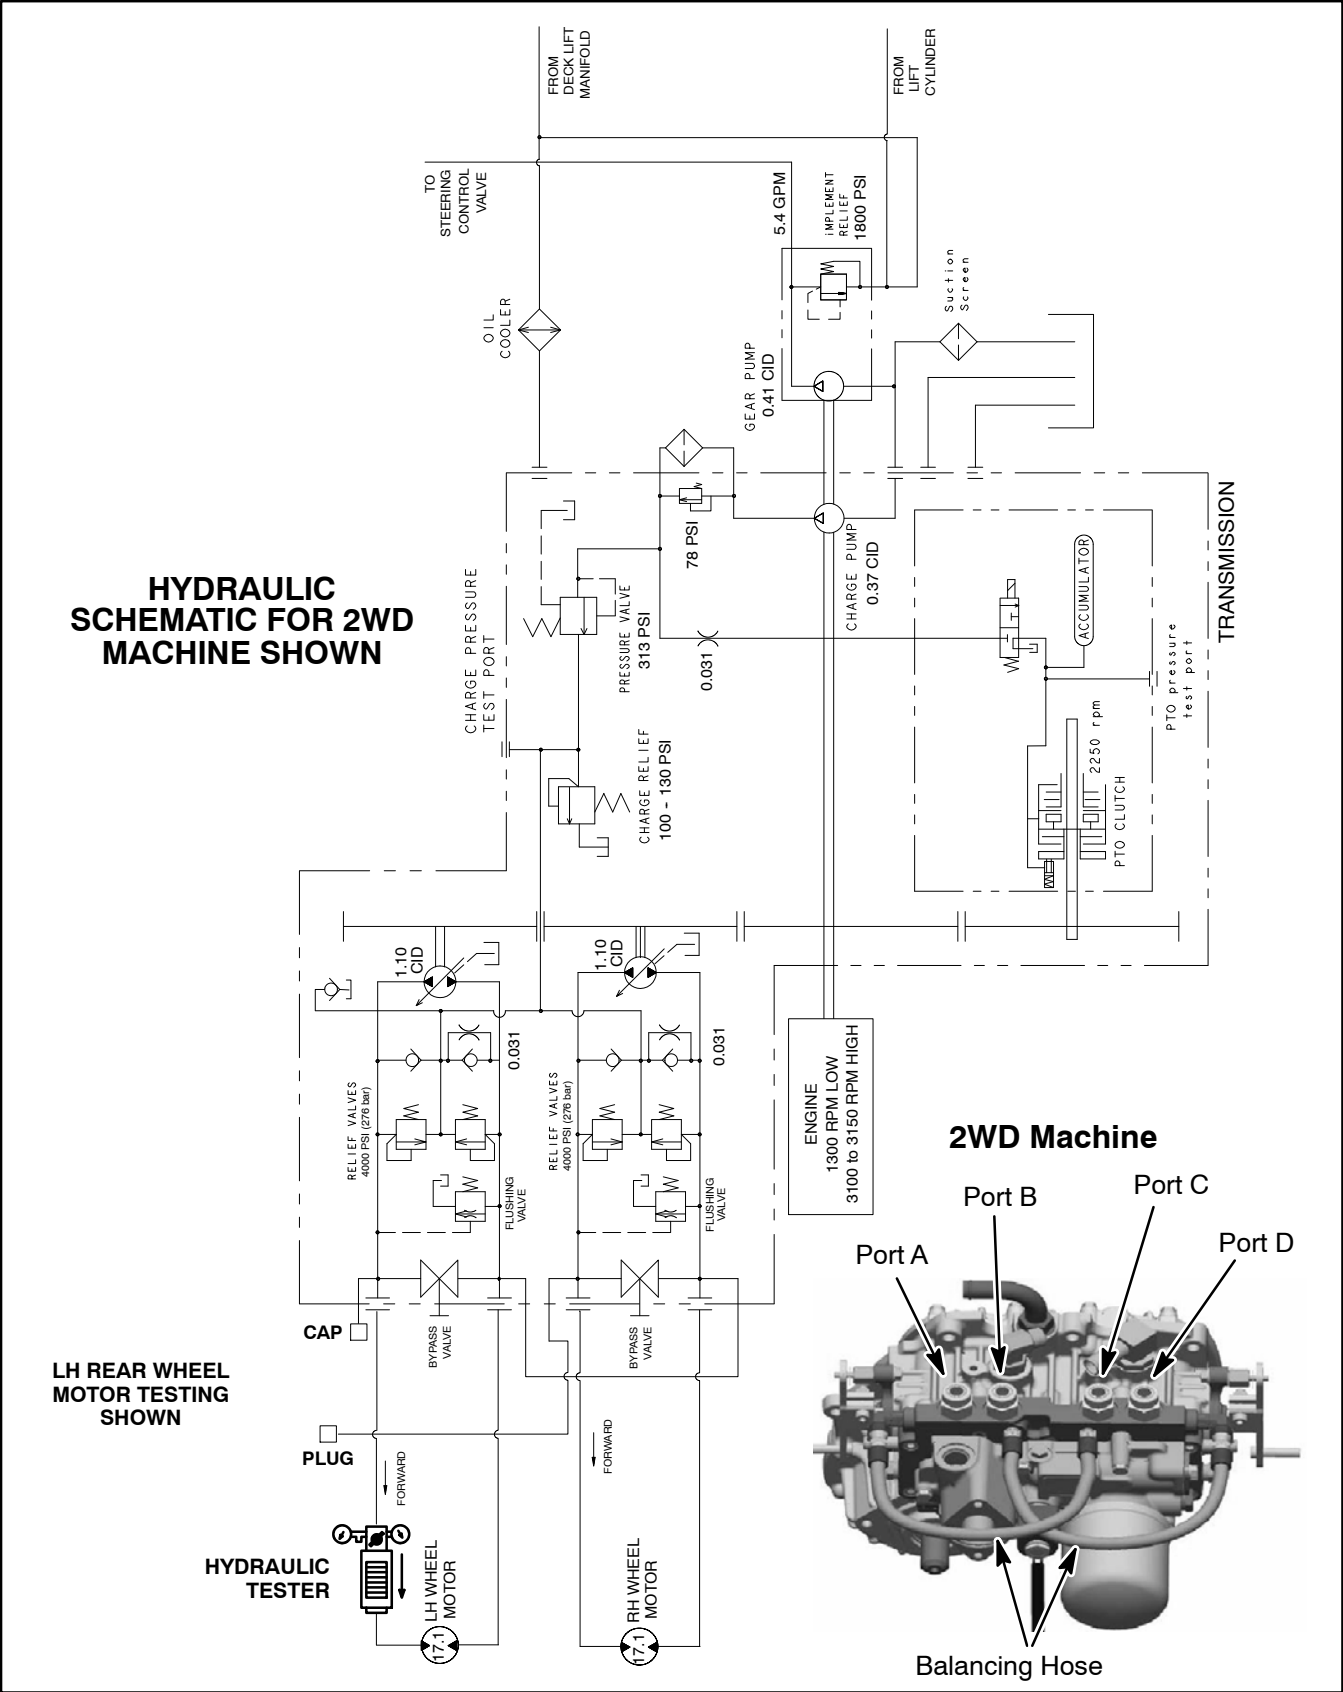

Figure 32
7. Thoroughly clean area surrounding traction circuit hoses on top of transmission (Fig. 32 or 33). Determine which rear wheel motor is to be tested.
8. Disconnect hydraulic hose from transmission pump outlet fitting for rear wheel motor to be tested (Fig. 32 or 33):
10. Disconnect balancing hose from transmission fitting closest to transmission pump outlet fitting for rear wheel to be tested (Fig. 32 or 33). Install steel cap on fitting and steel plug in balancing hose.